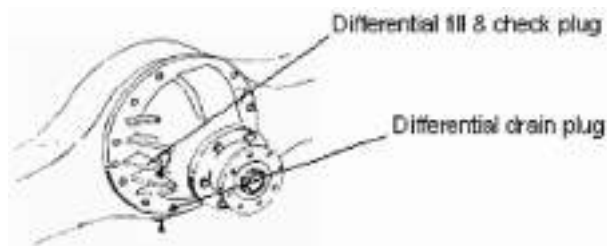

Figure 1-6 Differential Plugs
- (b) Check the differential oil level by removing the filler and check plug indicated in Figure 1-6. Add oil as necessary to bring the oil level to the bottom of the hole.
- (2) Do a check of the level of differential oil as follows:
- (1) Remove and replace the oil in the differential as follows:
- (a) Remove the fill plug and the check plug to drain the oil. Refer to Figure 1-6.